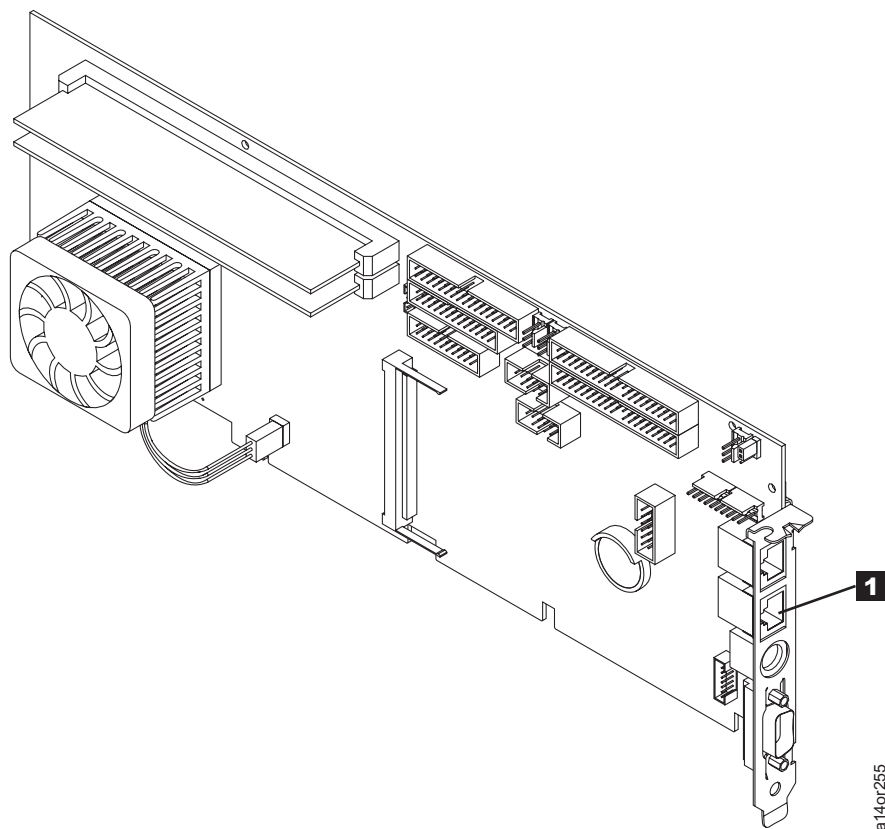

Figure 2-30. Plug Ethernet Cable Here (3494). Notice Item 1.
1. See Figure 2-30. Ensure that an ethernet connection has been completed between the 3494 ATL or 3953 SBC card port 1 (lower port) and a port on one of the System Console ethernet switches. The ethernet cable should plug into the bottom port (Item 1 in Figure 2-30). The SBC card is in slot 3 of the 7581.